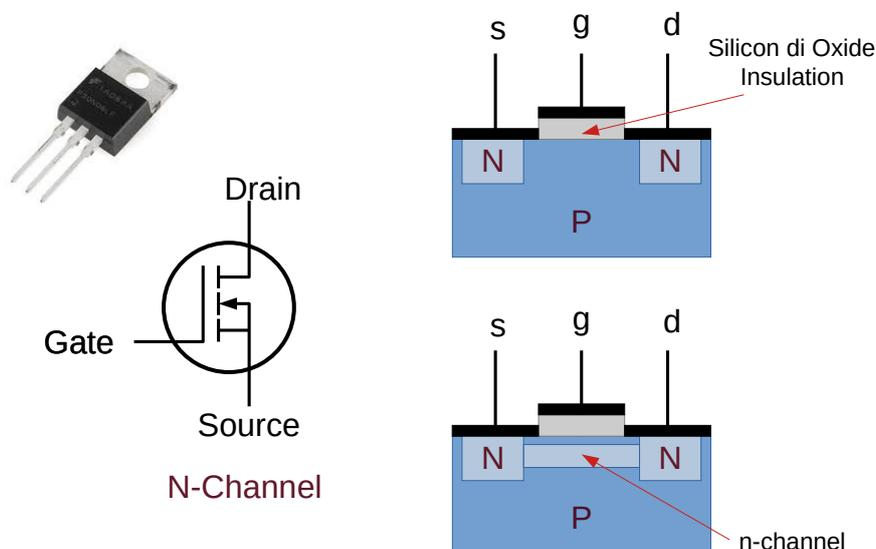

Figure 41: N-Channel MOSFET
A Metal Oxide Semiconductor FET (MOSFET) is a particular type of FET based on the operation of the capacitor. It uses an insulated layer between the Gate (G) and the channel which is made of a layer of metal set down on the silicon oxide which in turn is on the silicon channel. Typically this is formed from a layer of oxide of the semiconductor as illustrated in Figure 41.